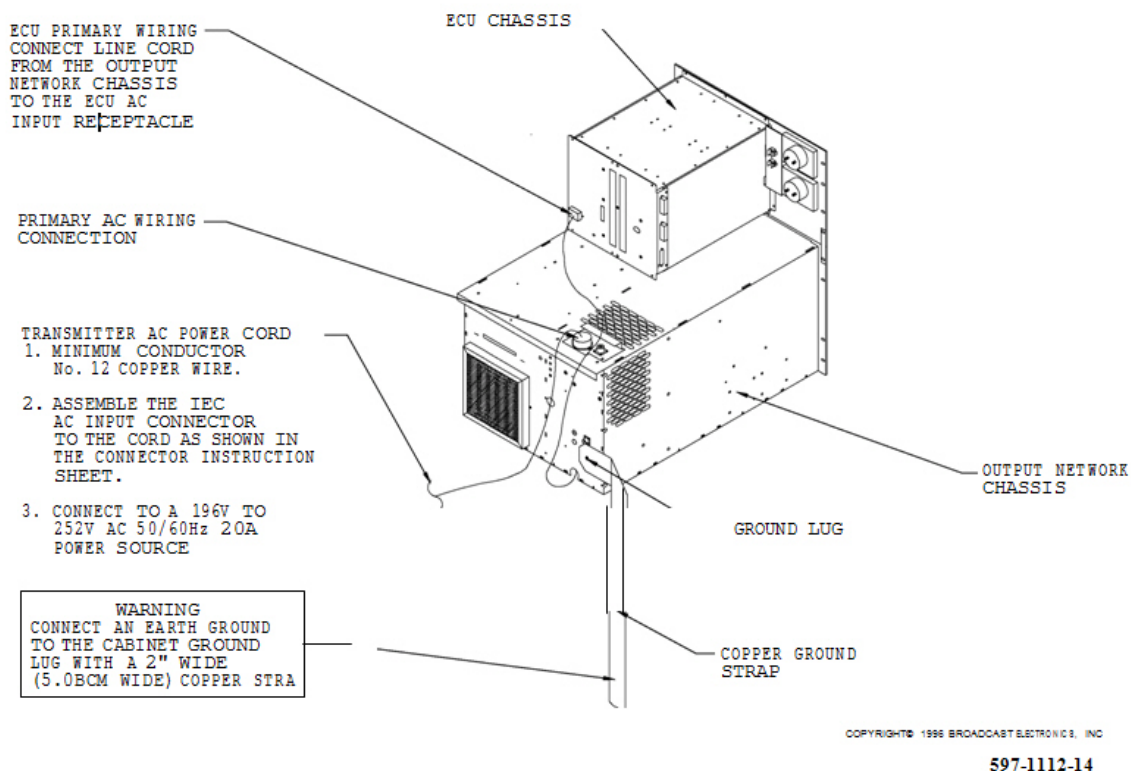

Figure 2-9 AM-1A / AM-500A Primary AC Wiring
- F. AC POWER CONNECTIONS.** The AM-1A/AM-500A transmitter requires a single-phase source of 196V to 252V ac, 50 Hz or 60 Hz at 20 Amperes. AC power is applied to the transmitter through an ac line cord and modular connector. The transmitter ac power source must be protected by a 20 Ampere fused disconnect or circuit breaker (refer to Figure 2-9).
copper conductors and 2) the appropriate insulation type such as S or SO (refer to Figure 2-9). Determine the length of the cord required to route power to the transmitter and select the ac line cord material.
- H. Main AC Input. Ensure the transmitter ac line cord is connected to an appropriate power source. Refer to Figure 2-9 and connect the transmitter ac line cord to the ac input receptacle on the top-panel of the output network chassis as shown. Route the line cord through the strain relief as shown.
- I. GROUND. The transmitter is equipped with a chassis ground system for operating safety. The ground system requires the connection of an earth ground. Refer to Figure 2-9 and connect an earth ground to the cabinet ground lug as shown using a 2 inch (5.08 cm) wide copper strap.